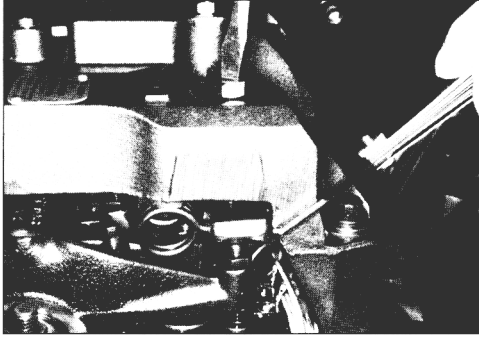

FIG. 22
- Turn the slave piston adjusting screw clockwise until a **slight drag** is felt on the feeler gage (see Fig. 22).